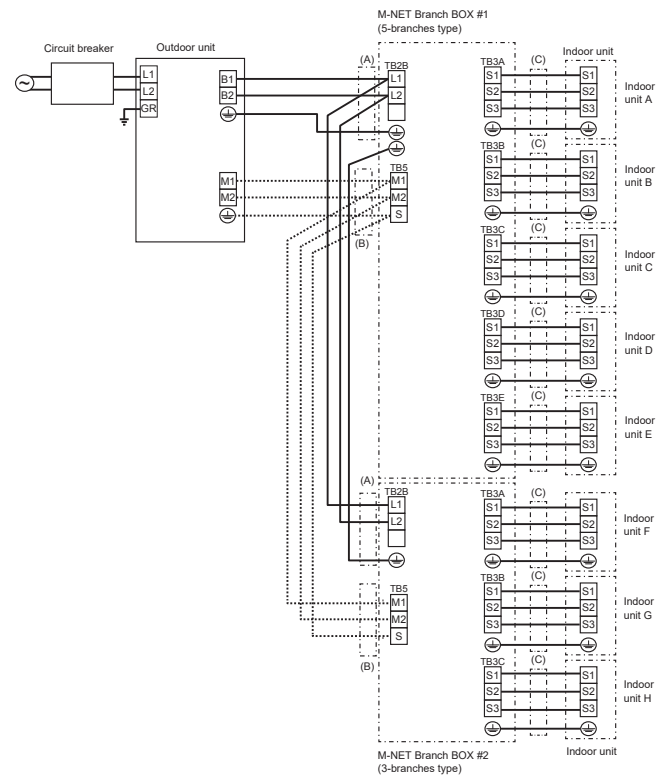

Fig. 8-9
- (2) Remove the conduit cover.
- (3) Pass the wiring into the branch box through the conduit plate and fix with the conduit plate. (Refer to 8.3.)
- (4) Firmly connect each wire to the appropriate terminal block. (Fig. 8-9)
- (5) Set dip sw. (Refer to 8.5.)
- (6) Replace the electric cover.
8.4. External wiring procedure (Fig. 8-9)